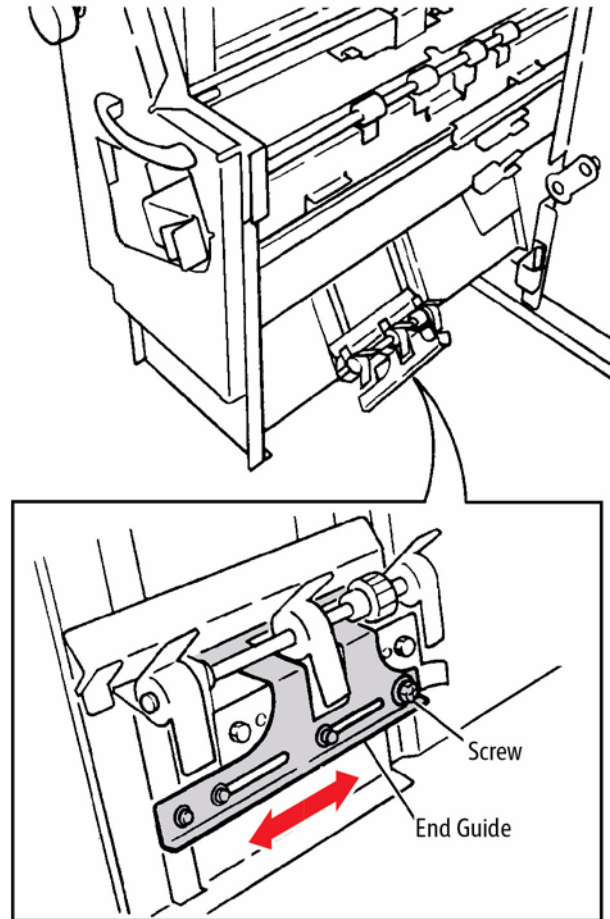

Figure 3 Adjusting the Fold Skew
- Adjust the Booklet skew (Figure 3).